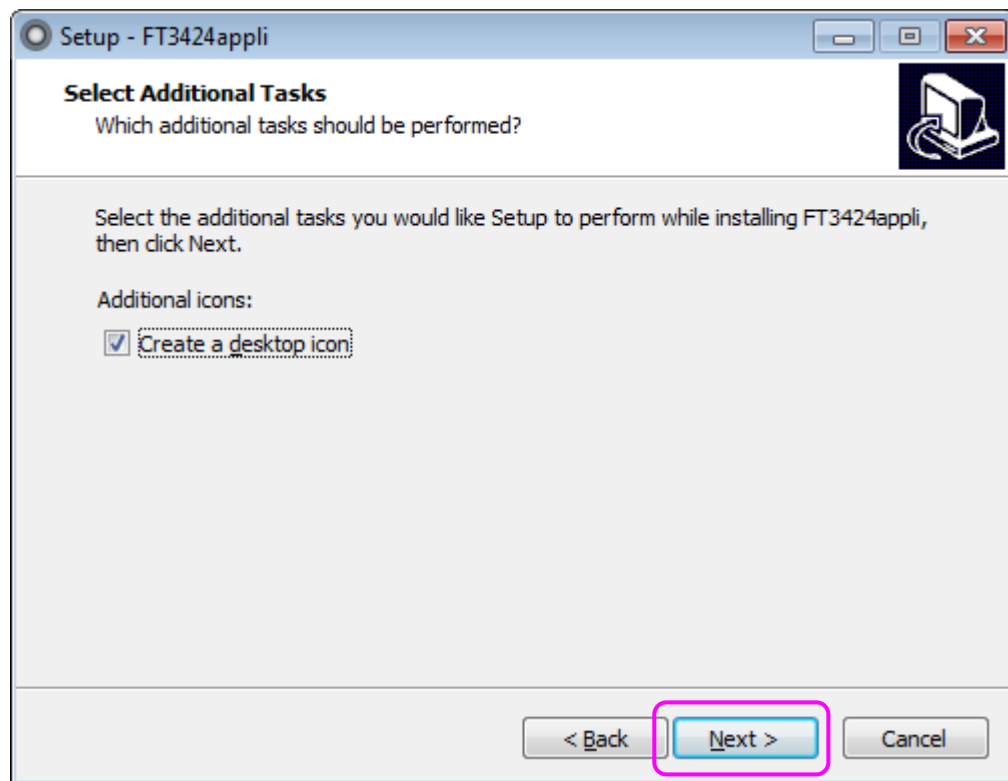

Fig.2-8
Step5: Check [Create a desktop icon] or not, then click [Next]. (Fig.2-8)